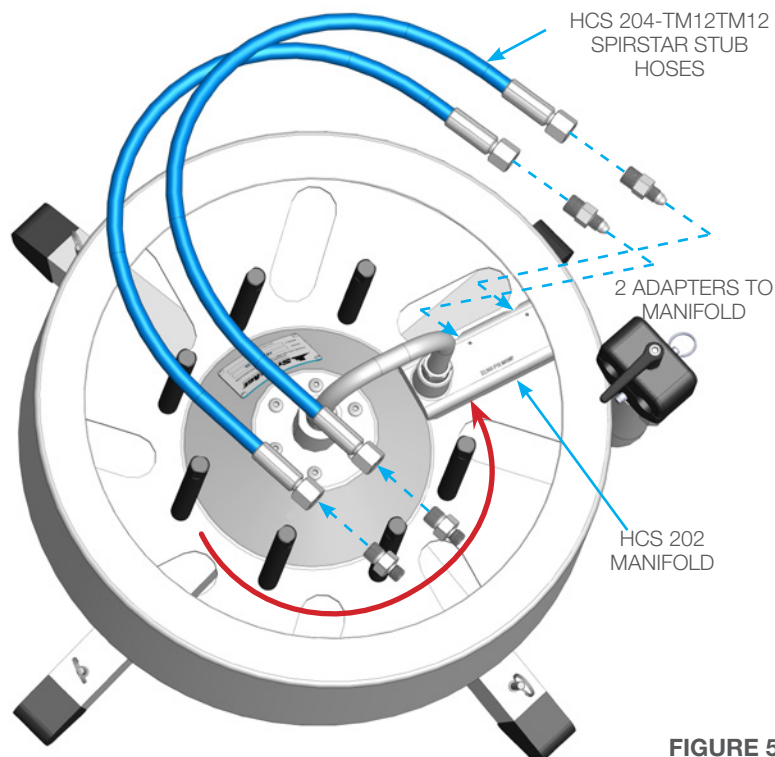
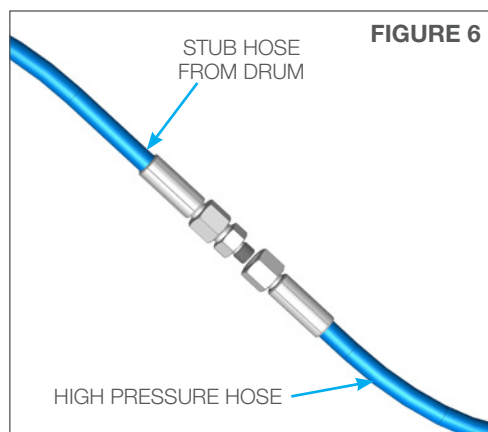

FIGURE 5
FIGURE 6
1. Thread one pair of hose adapters into the HCS 202 Manifold and the other pair onto the ends of the stub hoses. Thread the female stub hose ends onto the adapters that are installed in the manifold. (**Figure 5**)
2. Thread the high pressure hoses onto the ends of the stub hoses (**Figure 6**) and continue to wrap the remainder around the rods, in the direction of the red arrow. (**Figure 5**)